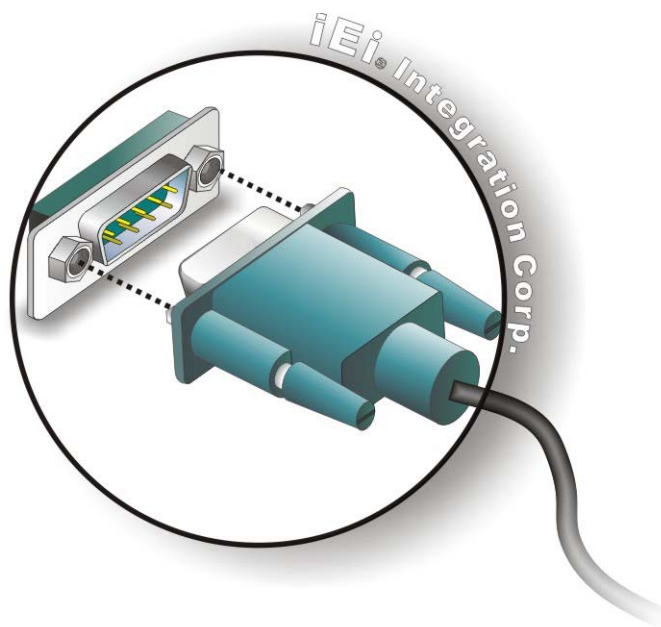

Figure 3-28: RS-232 Serial Device Connector
Step 2: **Insert the serial connector.** Insert the DB-9 connector of a serial device into the DB-9 connector on the external peripheral interface. See **Figure 3-28**.